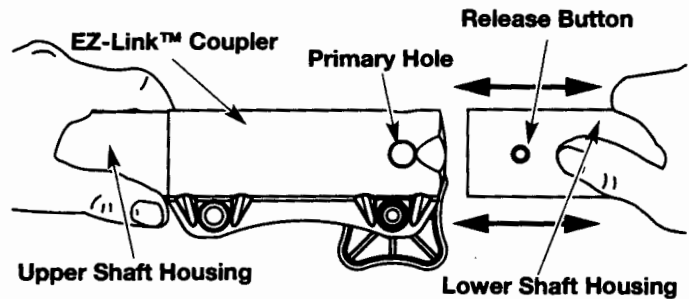

Fig. 20
3. While firmly holding the upper shaft housing, pull the cutting attachment or add-on straight out of the EZ-Link™ coupler (Fig. 20).
2. While firmly holding the add-on, push it straight into the EZ-Link™ coupler (Fig. 20).